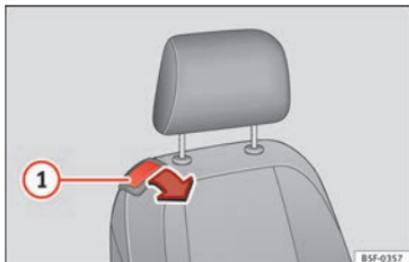

Fig. 108 Front passenger seat: lever for folding down the backrest.
- Pull lever ① » Fig. 108 and push the seat backrest until the backrest is horizontal.